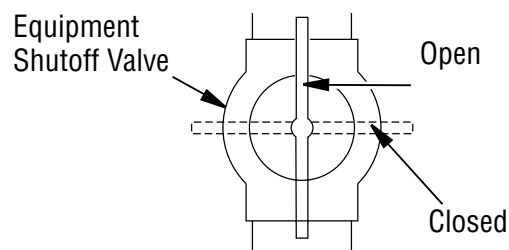

Figure 27 - Equipment Shutoff Valve
1. Close equipment shutoff valve (see **Figure 27**).
1. Open equipment shutoff valve (see **Figure 27**).